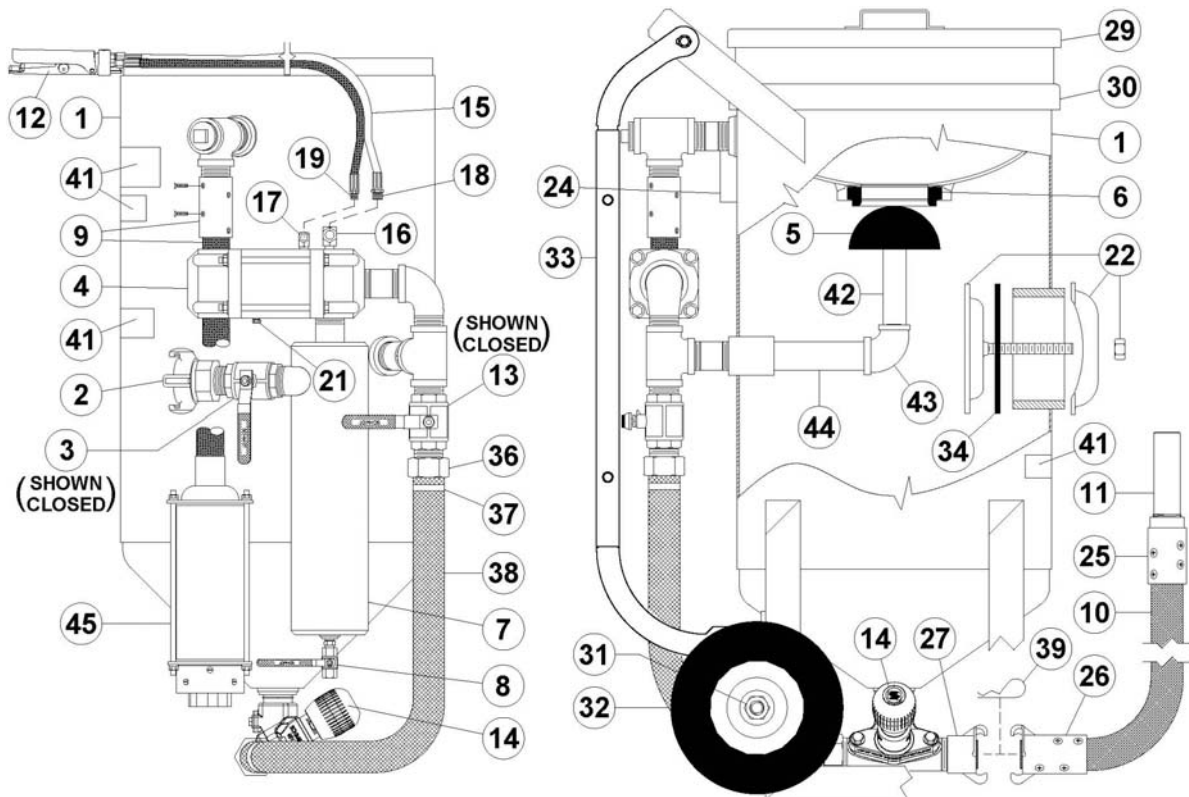

Figure 8.4 – MV3 Valve Abrasive Blaster with pneumatic blast controls
- 8.11. **Combo Blowdown Hose:** The blowdown hose (#9) that passes through the combo valve (#4) is a 3/4" blast hose. Abrasive carry-over can wear a hole through the wall of the hose and the fittings upstream. See Figure 8.4. Depressurize the abrasive blaster per Section 6.2 and check hose condition weekly. Replace as needed. When replacing the blowdown hose (#9), also replace the pipe fittings upstream of the valve. These fittings are the 1-1/4" x 3" VBS II Restrictor, 1-1/4" tee, and the 1-1/4" pipe plug (see Figure 8.4).